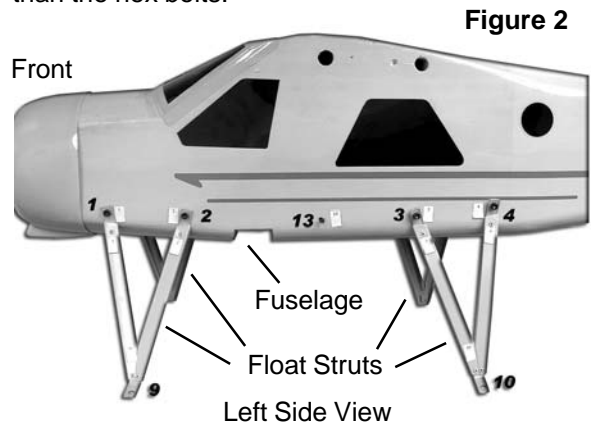

Figure 2
Step 5: See Figure 2 and apply low tack labels to the side of your fuselage to match the numbers you applied to the float struts in Step 4.